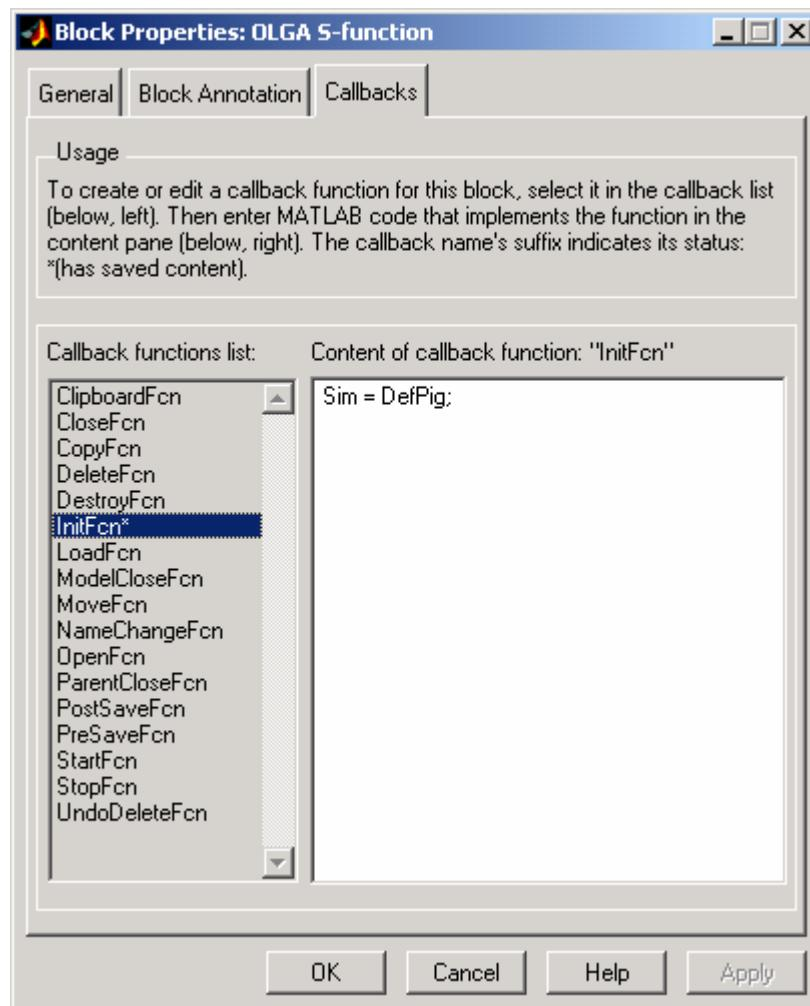

Figure 11.2 Block properties window
2. Right click on the OLGA block and select 'Block properties' from the popup menu. Then the Block properties window appears. Select the Callback tab and fill in the MATLAB syntax for invoking your MATLAB function in the InitFcn callback field, see Figure 11.2.